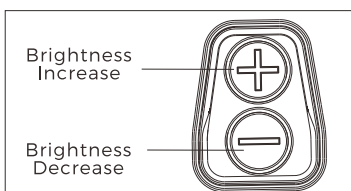

Fig 7
- 1) Switch on: Press and release either brightness button ("+" or "-") to turn on the sight. See Fig 7.